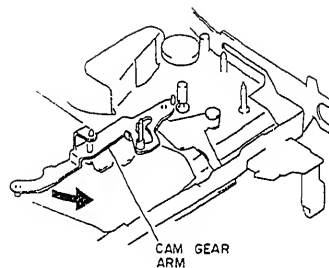

Fig. 2-94
1. Move the cam gear arm in the direction of the arrow. (See Fig. 2-94)